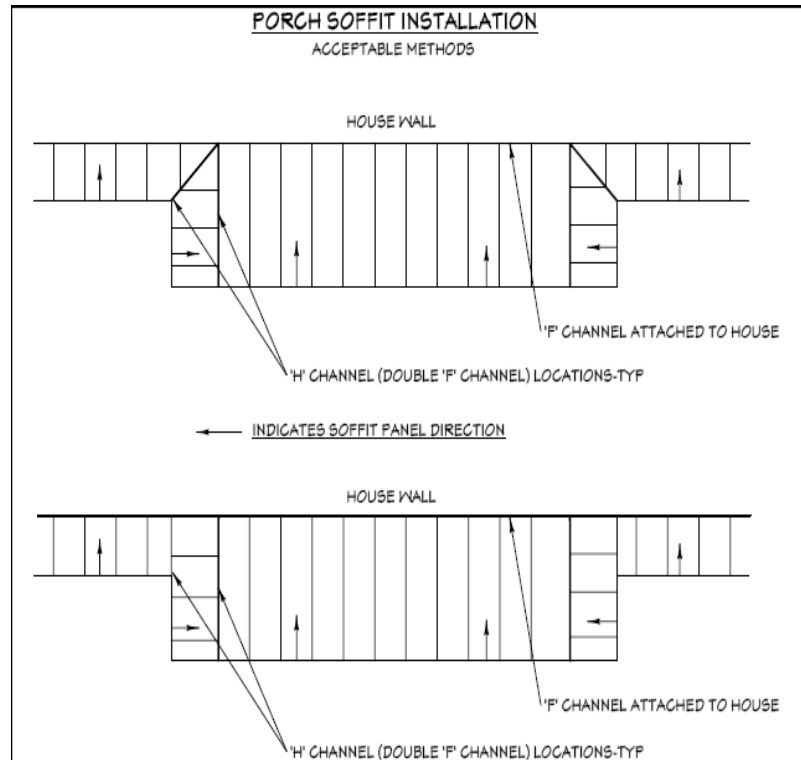

Figure 11-13. Porch Soffit.
4. Install the porch ceiling soffit using one of the two patterns shown in Figure 11-13. While both are acceptable installation methods, the second pattern is easier to install.